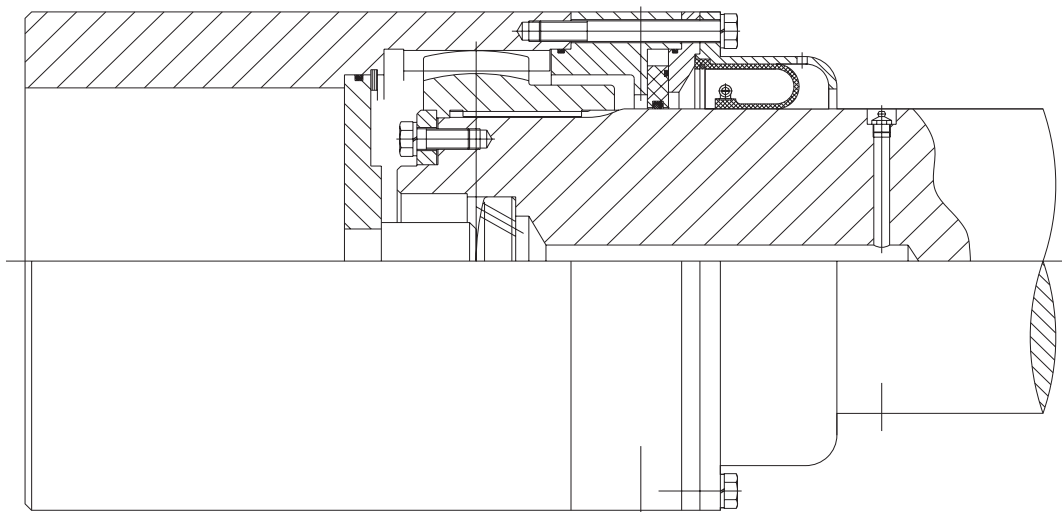

Figure 2 Special seal
2) Special seal, which assures a complete grease unleakage under the worst working conditions is shown in fig.2: